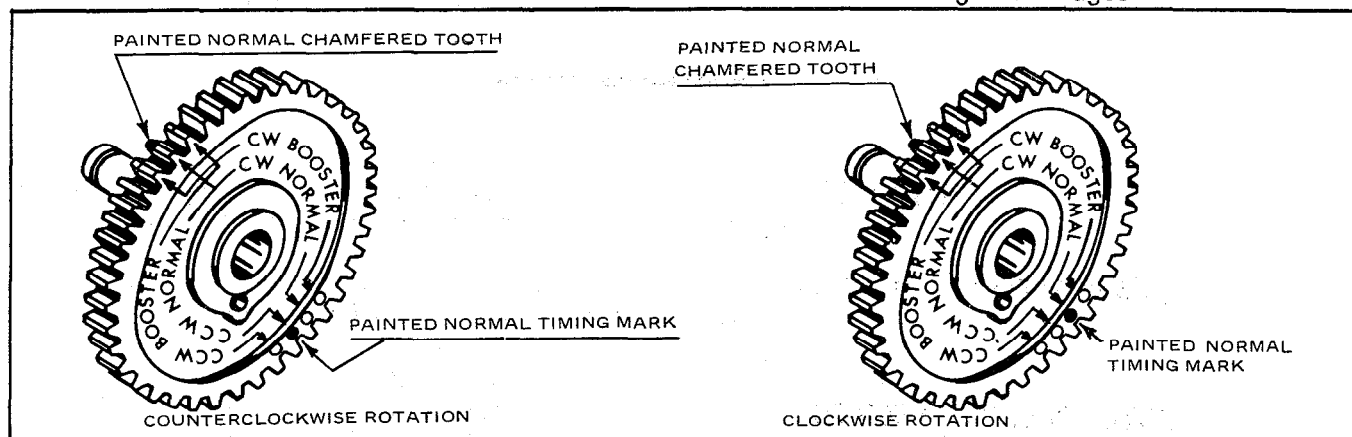
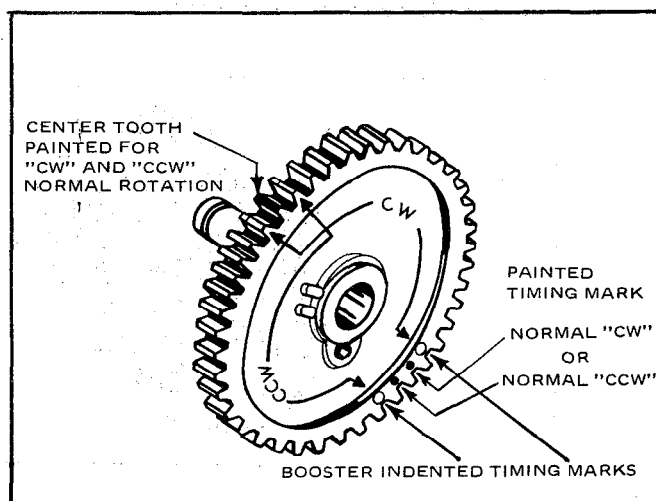

Figure 2. Modified 6 Cylinder Gears P/N 10-157197
Figure 4. Present Production Distributor Gear Assembly with Additional Timing Marks Painted
- b. Locate normal timing tooth between CW and CCW booster chamfered teeth and paint this tooth and the applicable inner timing mark with red Dykem or red lacquer in accordance with figure 2 or figure 4 for appropriate gear.
- Locate normal timing tooth between CW and CCW booster chamfered teeth and paint this tooth and the applicable inner timing mark with red Dykem or red lacquer in accordance with figure 4.
Dykem or red lacquer as illustrated in figure 4.